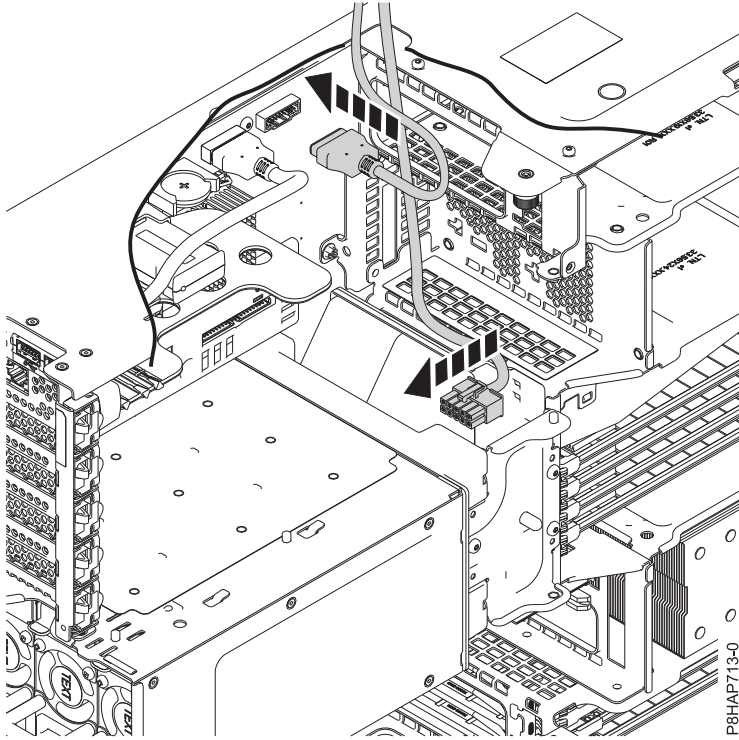

Figure 68. Connecting the internal RDX docking station (FC EUA3) USB and power supply cables to the system planar
3. Connect the new internal RDX docking station (FC EUA3) power supply to the system planar. See Figure 68 on page 75.